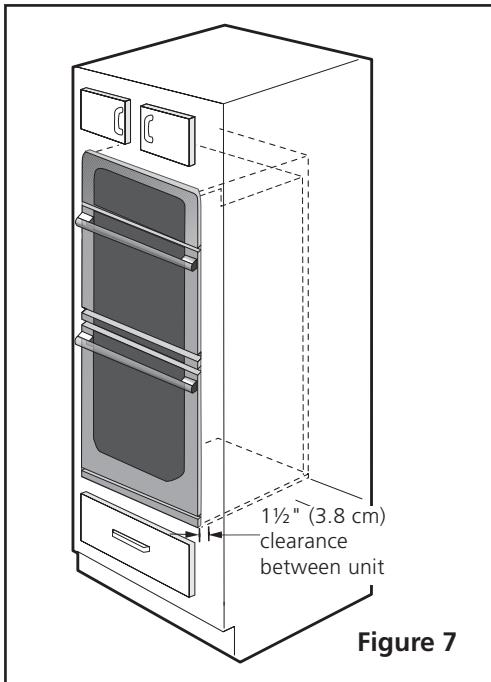

Figure 7
- 5 Insert the unit into the cabinet opening. Slide unit inward leaving  $1\frac{1}{2}$ " (3.8 cm) clearance between the unit and front of cabinet (see Figure 7).